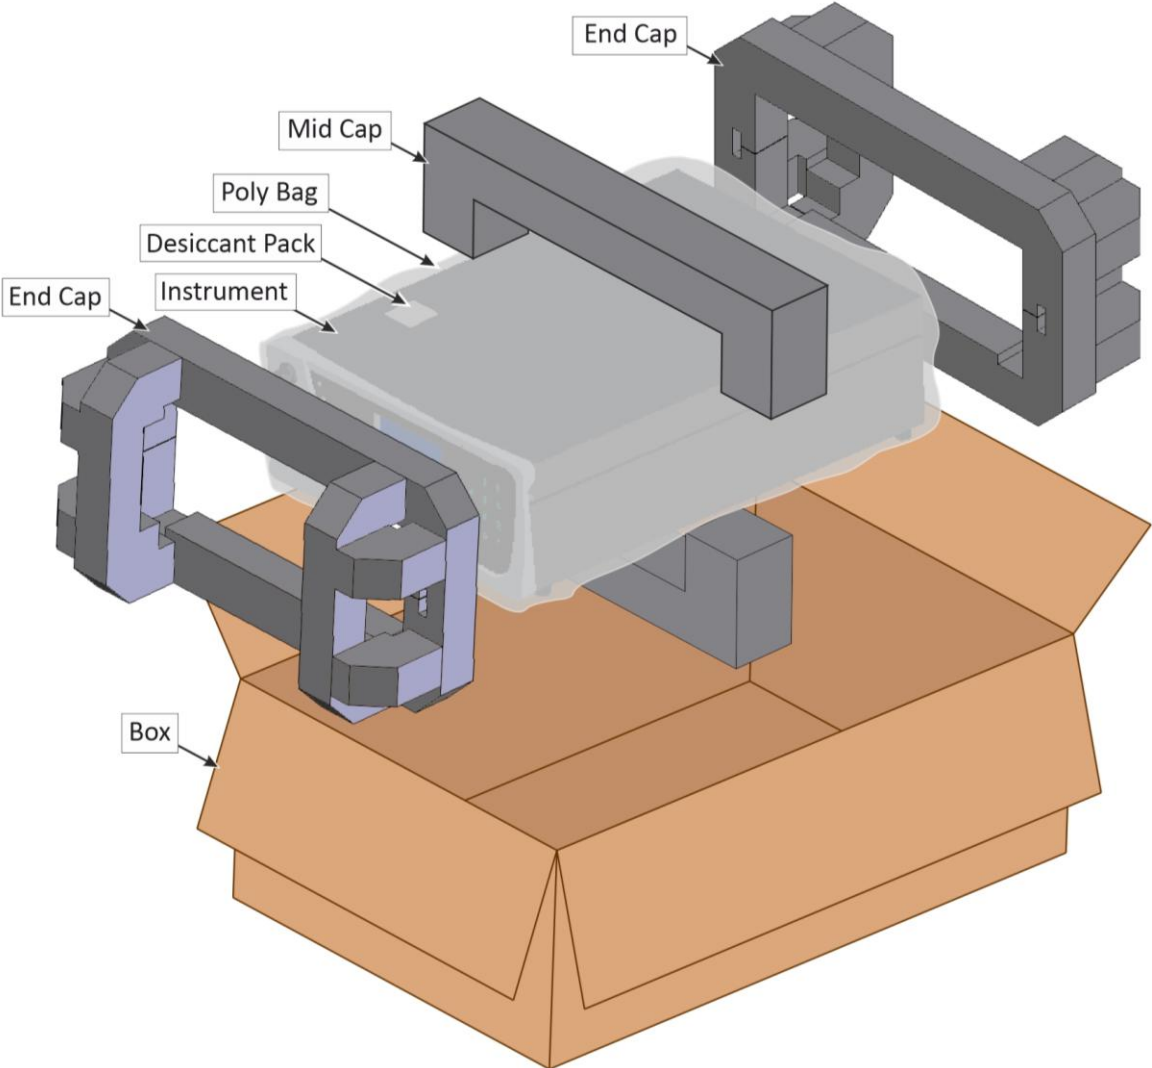

Figure 38 – Packing Instruction
8. Refer to Figure 38. Place the instrument back into the original foam and box it was delivered in. If this is no longer available find some equivalent packaging which provides protection from damage.